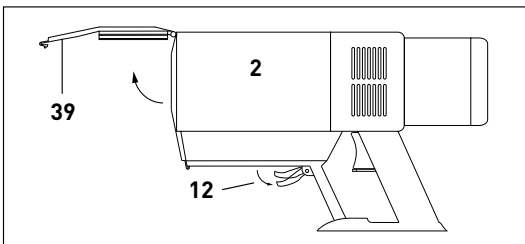
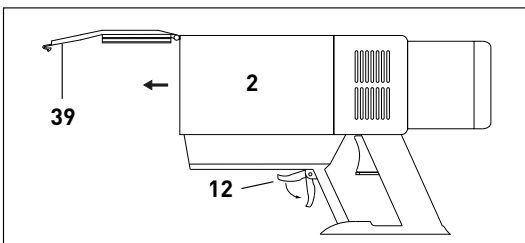

Figure 14
Figure 15
Hold the dust container over trash receptacle. Pull the dust container release lever halfway (#12 figure 14). **The dust container lid (39) is spring loaded and will pop open.** Contents can be emptied. For more comprehensive cleaning, the dust container can be fully removed by pulling the lever (#12 figure 15) all the way down. Once the dust container is fully removed from the suction unit, it can be cleaned with warm water and mild detergent. Rinse thoroughly and air dry for at least 24 hours before use.